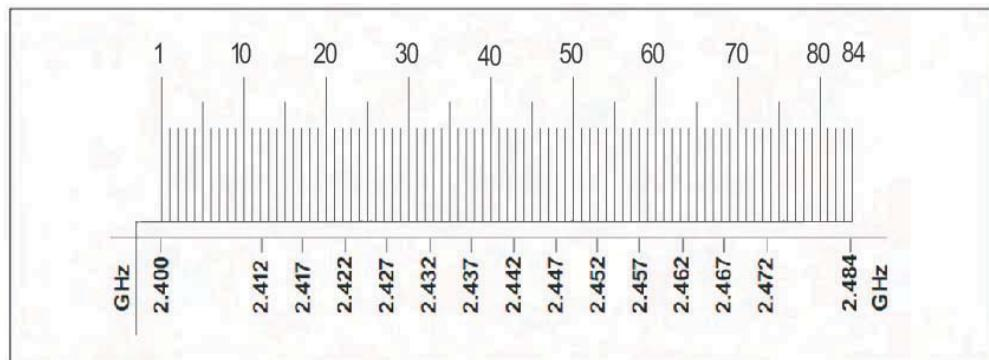

Figure 1.3 Wireless channel of the GONSIN30000 system
In GONSIN30000 system, the frequency band 2.4GHz is divided into 85 channels; where, channel (0)and channels 80~84 are reserved for communication of fixed purpose. Channels 1~79 are switchable. Refer to Figure 1.3.